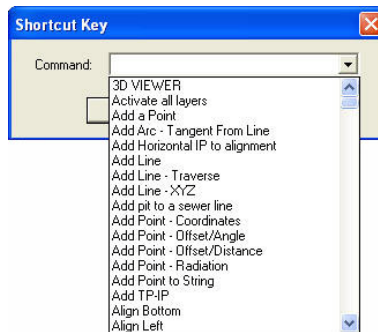

Figure 8-49. Command Drop-Down Menu
2. Select a shortcut in the **Key** column, then click **Define**. The **Command** drop-down menu appears (Figure 8-49).